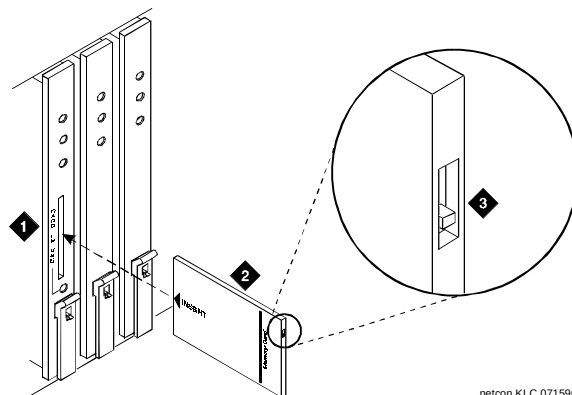

Figure 10-6. Record Switch on DEFINITY Memory Card
2. Verify that the switch on the outside edge of the memory card is in the downward position to record (see Figure 10-6).